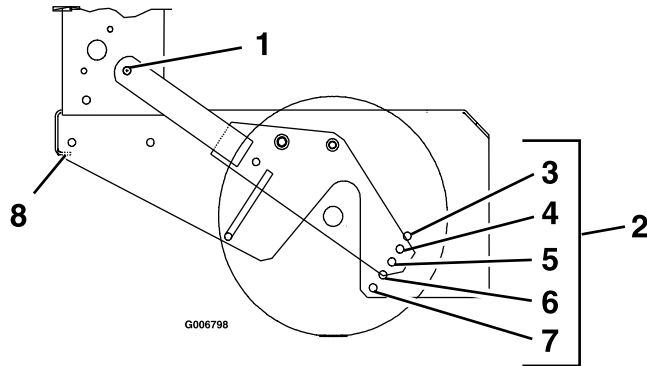
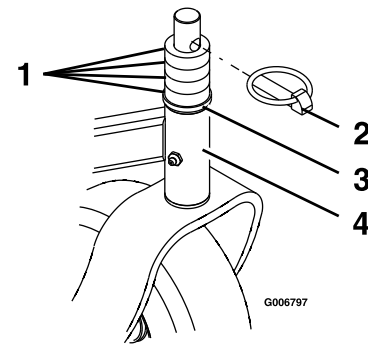

Figure 10
Figure 11
| Cutting Height Range | Axle Position (Figure 10) | Number Of Spacers Below Caster Support Hub | | Number of 1/4 inch (.64 cm) Blade Spacers Below Spindle | | | | |
Desired cutting height range can be obtained by adjusting the rear axle and placing caster spacers above or below the caster arm (See Figure 10 and Figure 11 along with the Cutting Height Adjustment Chart). It may be necessary to readjust wheel drive and brake linkages.
5. Loosen but do not remove the two axle pivot bolts and the two axle adjustment bolts (see Figure 10).
6. Remove “quick pin” from one caster and remove caster from hub (see Figure 11).